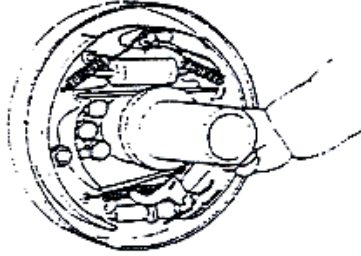

Figure 2-23
(8) Mount the brake shoe guide plate to the support pin, and then mount the return spring of the brake shoe. First install the main shoe and then install the auxiliary shoe. See figure 2-23
(9) Mount the regulator, the regulator spring, ejector Pin, return spring of the ejector Pin. The following points shall be noted: